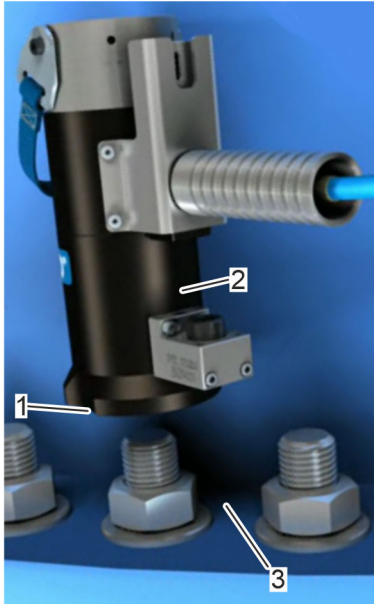

Fig. 24: Bracing
1. → Clean the resting surface (Fig. 24/3) and bolt.
2. → Position the hydraulic tensioner. Make sure that the resting surface (Fig. 24/3) is perpendicular to the bolt axis.
- 2. ➤ Clean the resting surface (Fig. 24/3) and bolt.